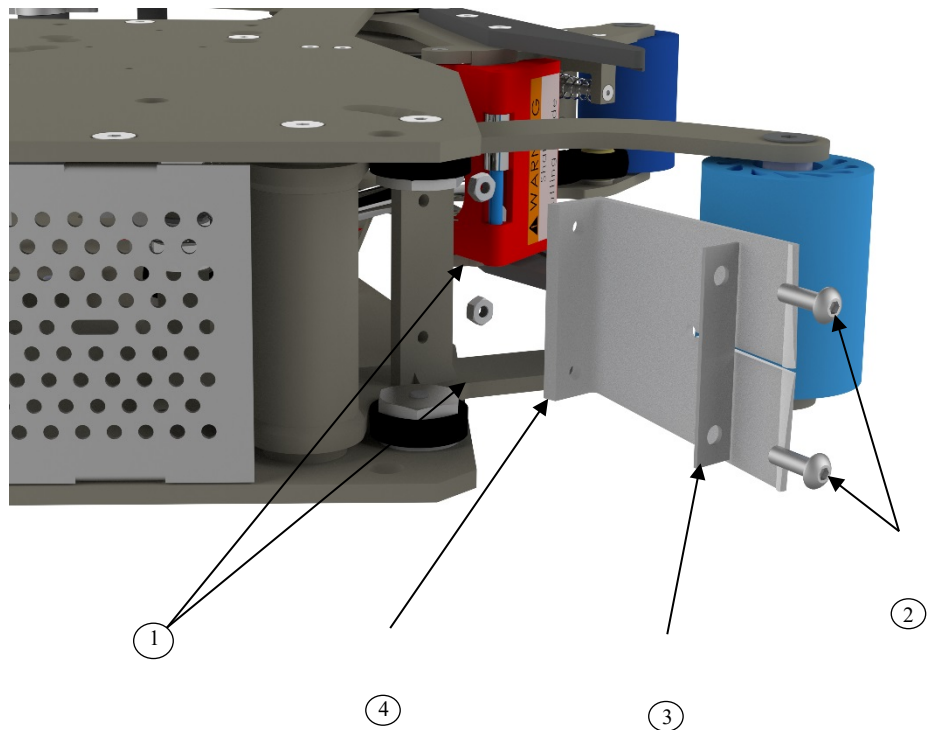

Figure 10-18
2. Unscrew the two M4 bottom head countersink screws (**item 2**).
4. Install new dual wiper tab with two M4 button head screws as shown in **Figure 10-18**. Check for the correct orientation.